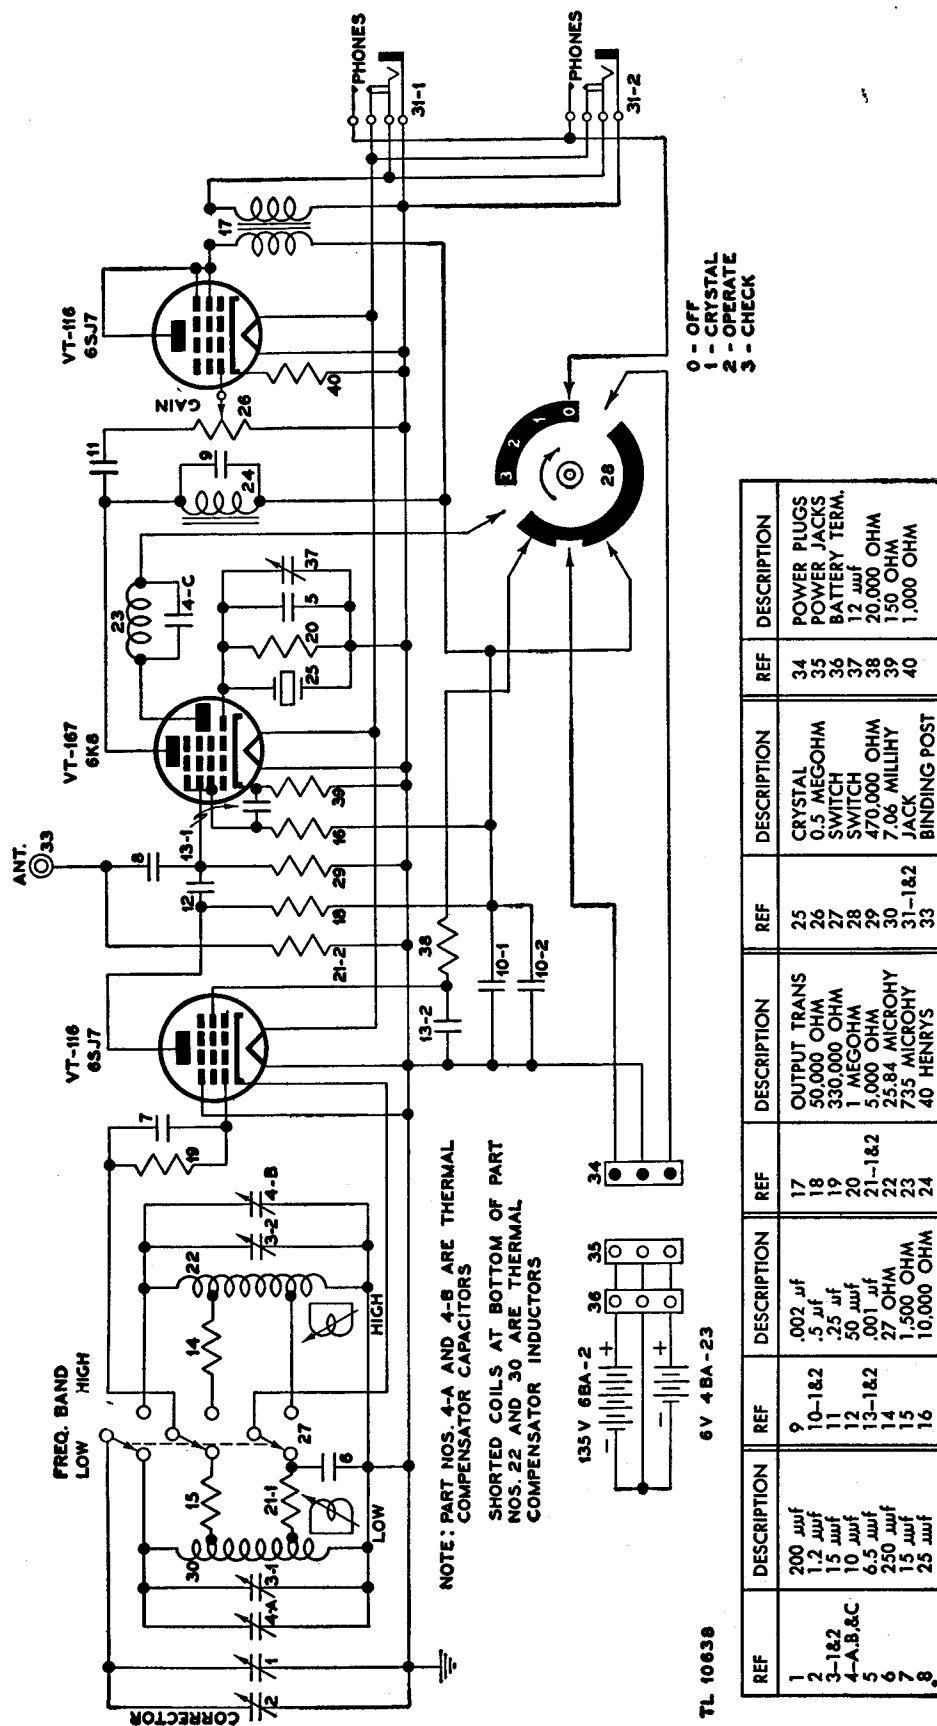

Figure 87. Frequency Meter BC-221-AE, schematic diagram.
while the numbers out of parentheses apply to the BC-221-AE. Other differences are covered by footnotes on the functional diagrams. As an example of the numbering system, the designation 39 (37) means part No. 39 of the BC-221-AE and part No. 37 of the BC-221-AG. For further details see figures 87 and 88.
e. **OSCILLATOR FUNCTION.** (1) The variable frequency oscillator circuit is in operation at the CHECK and OPERATE positions of the operation switch 28. (See figs. 87 and 88.)
(2) At the CHECK position, the output of oscillator Tube VT-116 (6SJ7) is applied to one of the grids of detector-converter Tube VT-167 (6K8) where it is mixed with the output frequency of the crystal circuit. The result is a frequency equal to the difference of the two and is used to adjust the frequency of the oscillator by means of the CORRECTOR control.
266. Power Supply Circuit (figs. 87 and 88)